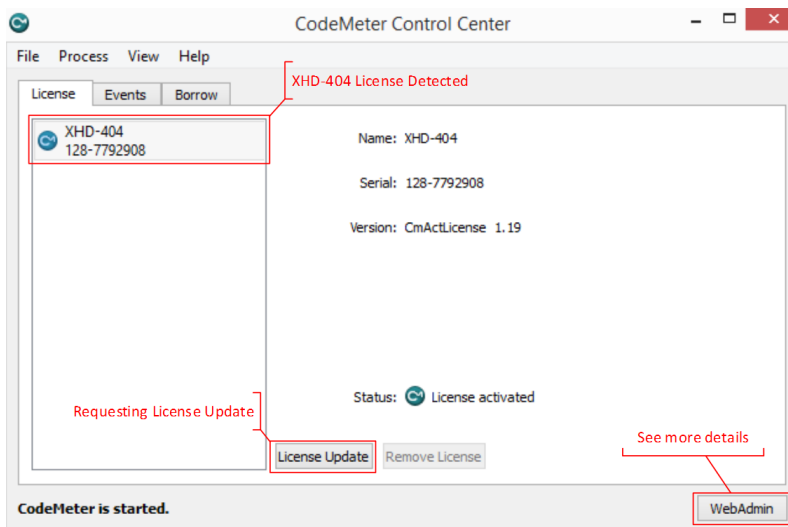

Figure 2.2. CodeMeter Control Center overview for XHD-series license.
2. Find the XHD-Series license listed in CodeMeter Control Center (See Figure 2.2, “CodeMeter Control Center overview for XHD-series license.”.)
- 2. Find the XHD-Series License listed in CodeMeter Control Center (See Figure 2.2, “CodeMeter Control Center overview for XHD-series license.”.)